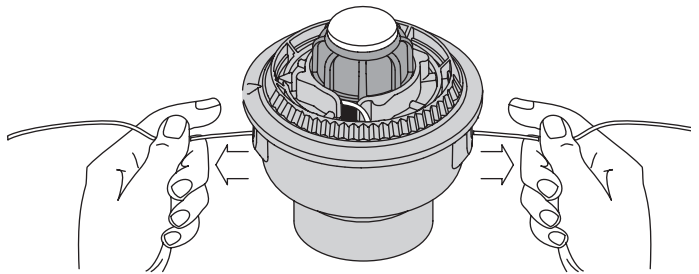

Fig. 17
9. If winding the line becomes difficult or if the line jams, pull the ends of the line from the spool (Fig. 17). Continue winding the inner reel counterclockwise.
4. Hold the inner reel in place and install the bump knob, spring and foam seal. Press down and turn the bump knob clockwise. Grasp the ends and pull firmly to release the line from the holding slots in the inner reel (Fig. 17 & 18).
If the SpeedSpool® does not release line correctly, pull the ends of the line firmly from the spool (Fig. 17). If this does not release the line, follow the *Cleaning the SpeedSpool®* instructions.